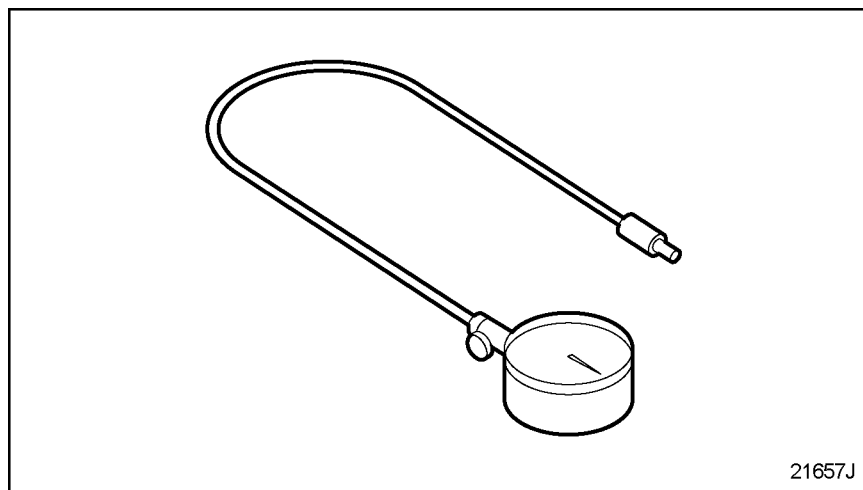

Figure 13-3 Attach Cylinder Compression Gauge J 6692-B
19. Attach cylinder compression gauge (J-6692-B) to the first adaptor. See Figure 13-3.